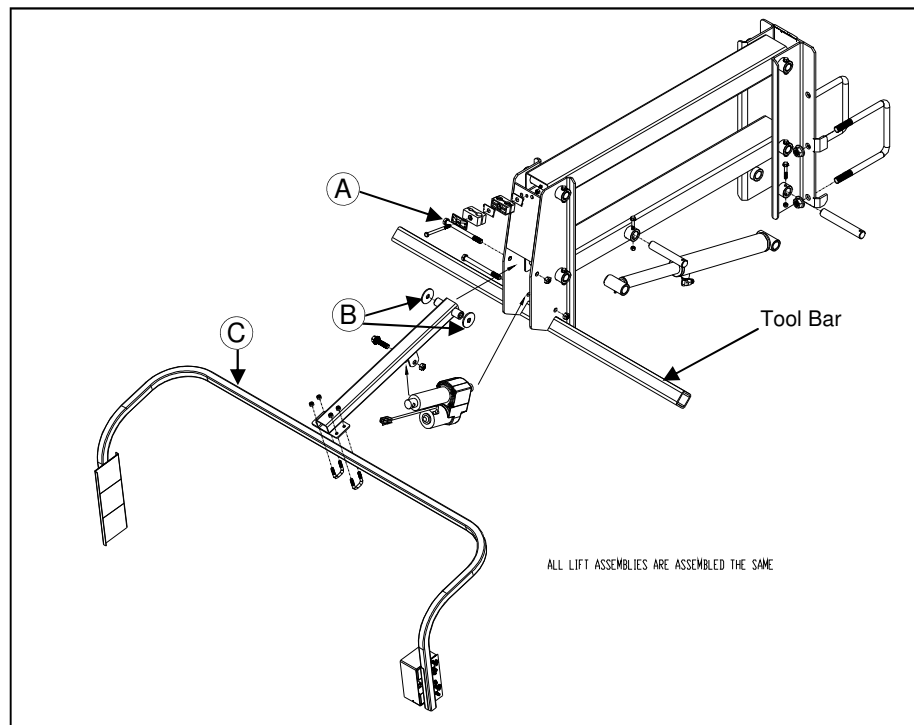

FIG 77-1
1. Install Tasselrol®/LS sensor mount support weldment with the two nylon washers (fig 77-1, item B) in the forward-most hole of the tool bar (fig. 77-1, item A).
2. Install the Tasselrol®/LS sensor mount weldment (fig. 77-1, item C) to the sensor mount support arm.
Over tightening of the sensor arm pivot mounting bolt (fig. 77-1, item A) may cause the actuator to stall.